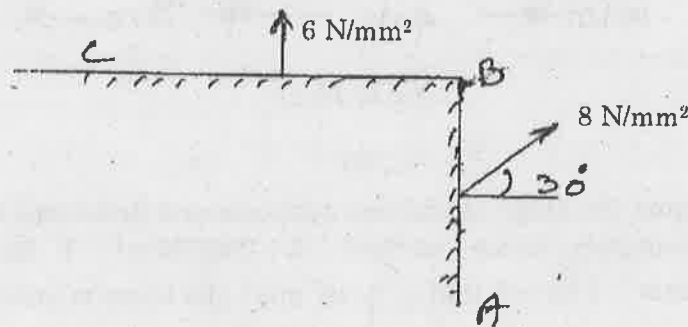

Fig. Q.16(a)
16. (a) The intensity of resultant stress on a plane AB (Fig. Q.16(a)) at a point in a material under stress is  $8 \text{ N/mm}^2$  and it is inclined at  $30^\circ$  to the normal to that plane. The normal component of stress on another plane BC at right angles to plane AB is  $6 \text{ N/mm}^2$ . Determine the following: (15)